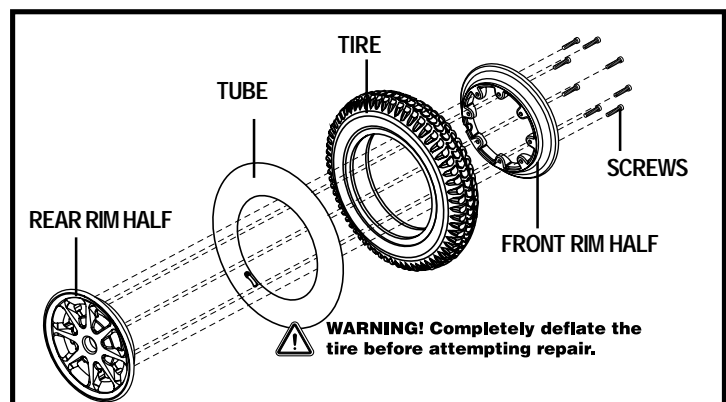

Figure 33. Jazzy 1122 Drive Wheel Disassembled
6. Remove the screws from the rim assembly and separate the front and rear rim. See figure 33.